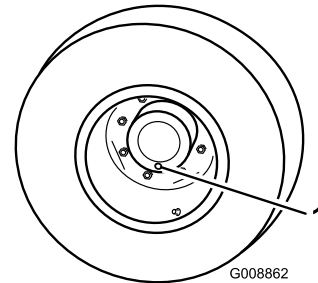

Figure 64
1. With machine on level surface, position a wheel so one of the check/drain plugs is at the lowest (6 o'clock) position (Figure 64).